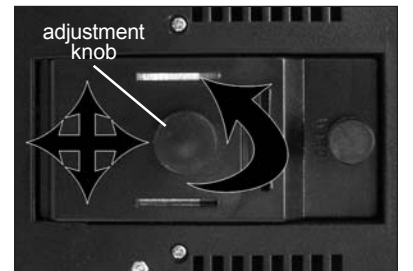
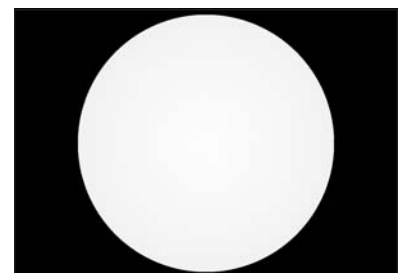

Figure 40
Figure 41
30. Lean the microscope back to expose the lamp adjustment control located on the bottom of the microscope stand taking care not to let the glass stage plate and/or specimens fall. Loosen the transmitted lamp adjustment knob located on the lamp compartment door by turning counter clockwise (figure 40).
31. Move the knob in latitudinal and/or longitudinal directions (figure 40) until the field of view as seen through the eyepieces is at it's brightest overall and the brightest portion is well centered in the field of view (figure 41). This step may be aided by placing a bright white piece of paper on the stage directly under the objective and the light field viewed through that.